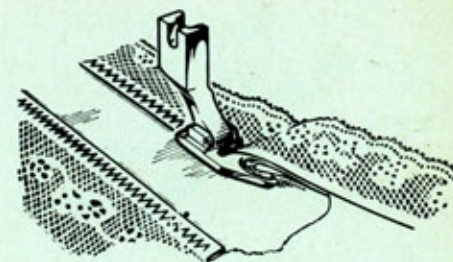

Fig. 44
d) HEMMING AND SEWING ON LACES (Fig. 44)